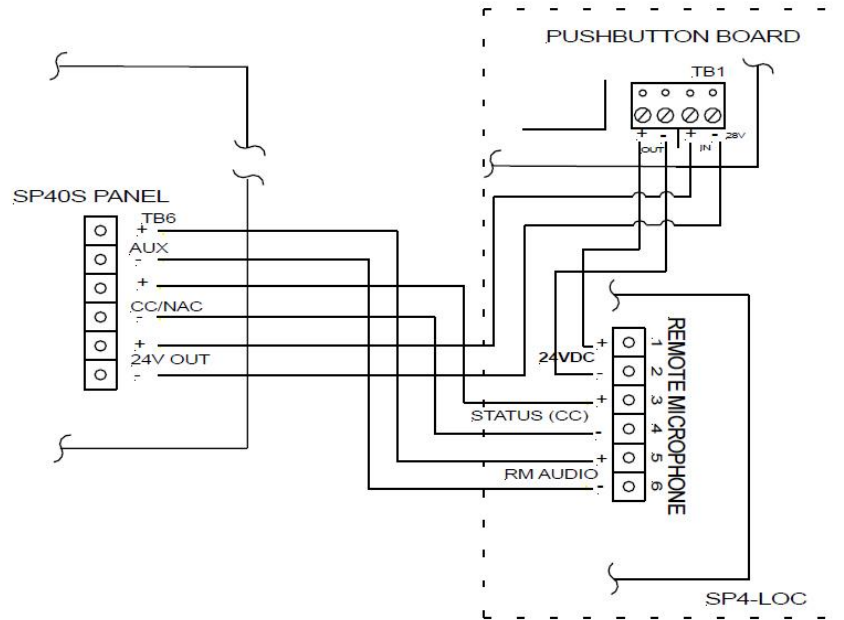

Figure 5: Wiring Diagram SPRM to SP40S
5. Connect the SPRM to the SP40S. Figure 5 shows the proper wiring connections for the SPRM to the SP40S.